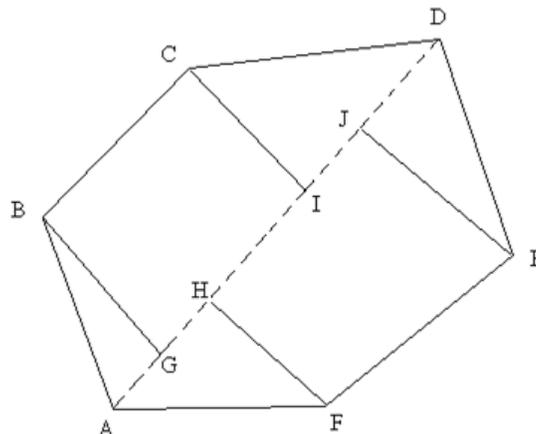

Figure 1: Survey of an Open Field (Closed Traverse)
1. ABCDEF is the required closed traverse open field to be surveyed for calculating the area as shown in Fig 1.
Let ABCD be a chain line obstructed by a pond (Fig 1). Let BC be the obstructed length. Two offsets BE and CF of equal lengths are made at B and C and chaining is done along EF to measure the distance EF.